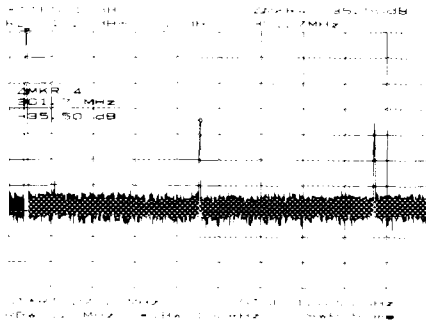
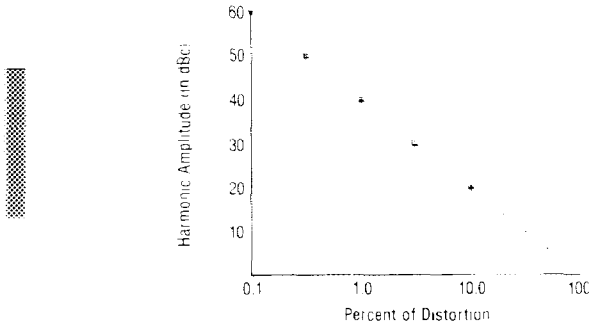
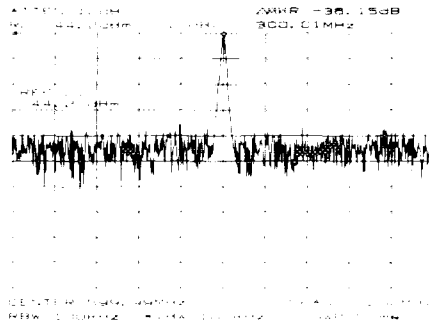

Fig.4.9. Harmonic distortion measured in dBc. Marker threshold set to -70 dB.
Fig.4.10. Percent of distortion vs. harmonic amplitude.
Fig.4.12. Second harmonic displayed in dBc.
2. For greatest measurement accuracy, raise the peak of the fundamental to the reference level by pressing **PEAK SEARCH**, **MKR →**, and then the softkey **MKR → REF LVL**. To measure the difference between the fundamental and a harmonic, activate a second marker by pressing the front-panel key **PEAK SEARCH** and the softkeys **MARKER DELTA** and **NEXT PK RIGHT**. This places the second marker on the peak of the second harmonic, as shown in Figure 4.9. The difference in amplitude between the fundamental and second harmonic shown in the figure is approximately -35 dB, or 1.8% harmonic distortion (see Figure 4.10). To measure the third harmonic, press **NEXT PK RIGHT** again. The marker in this example reads approximately -37 dB, or 1.5% distortion. Continue reading amplitudes and comparing them to Figure 4.10 for each additional harmonic you wish to measure.
2. To measure the second harmonic, press **MARKER DELTA**, **FREQUENCY** and the **↑** key. This step retunes the spectrum analyzer center frequency to the second harmonic. Adjust the harmonic to the reference level. This displays the amplitude of the second harmonic as shown in Figure 4.12. The difference between the second harmonic and the fundamental can be converted to a percentage of distortion using Figure 4.10. Again, units can be changed to **VOLTS** in order to read the voltage ratio of the two signals.